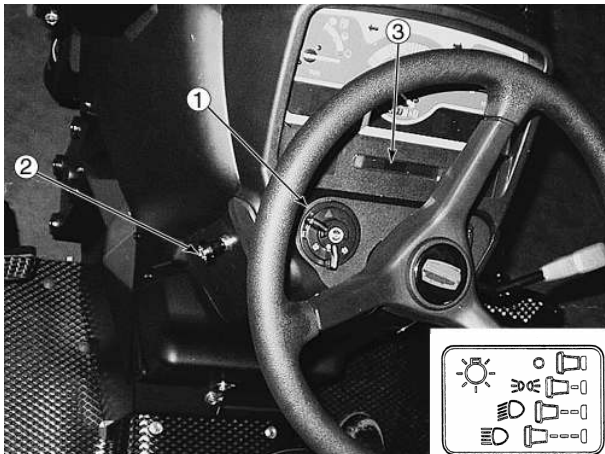

Figure 7 - 1. Combination Switch, 2. Main Lighting Switch
The main lighting switch, shown in Figure 7, is a pull-push type switch. Its positions are :
The warning light ③, Figure 7, will flash in union with tractor/trailer turn signals if trailer is attached.